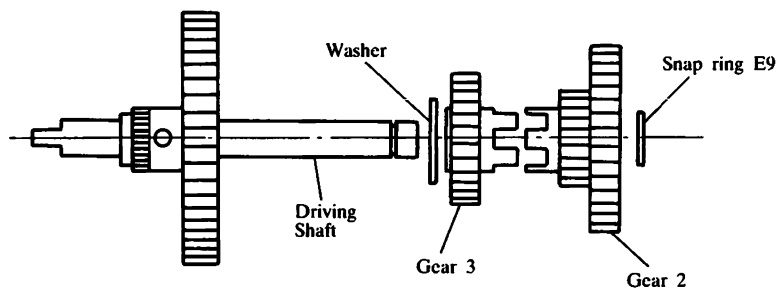

Fig. 54
- (2) Put the washer ($\phi 12$), Gear 3 and the Gear 2 on the driving shaft. (Refer to Fig. 54).